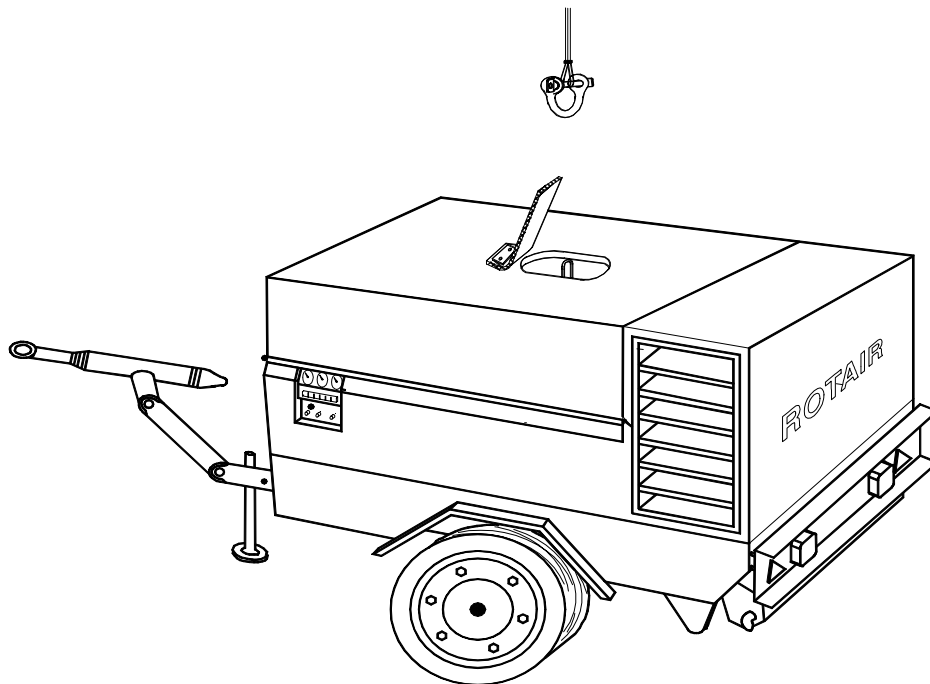

FIG.4
As shown in fig. 4 the lower part of the oil separator tank (Z) acts as an oil tank, while the filtering part is situated at the top which separates the air from the oil.
-- 6.1) LIFTING INSTRUCTIONS (Fig. 4) --
- b) Hitch the clevis and the rope (fig. 4) to the hook of the lifting means.